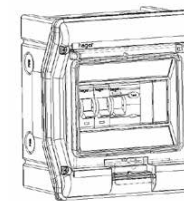

Fig 1. VE24AH
Cable access into the garage board must maintain the integrity so far as reasonably practicable. In essence, for surfaces accessible after installation, this means maintaining the requirement for the horizontal top surface of the enclosure to provide a degree of protection as detailed in fig 1 and fig 2. For rear cable access, the minimum number of knockout(s) shall be removed.
4. Fully open the bottom device clip (fig 1.)